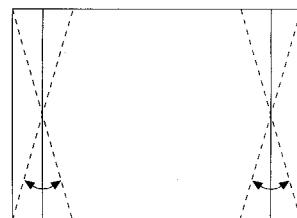

Fig. 6
- Adjust the E-W TRAPEZOID to obtain condition as in (fig. 6).